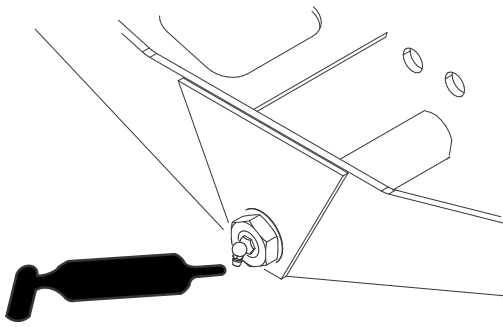

Figure 78
- Axle-steering pivot (1) (Figure 78)